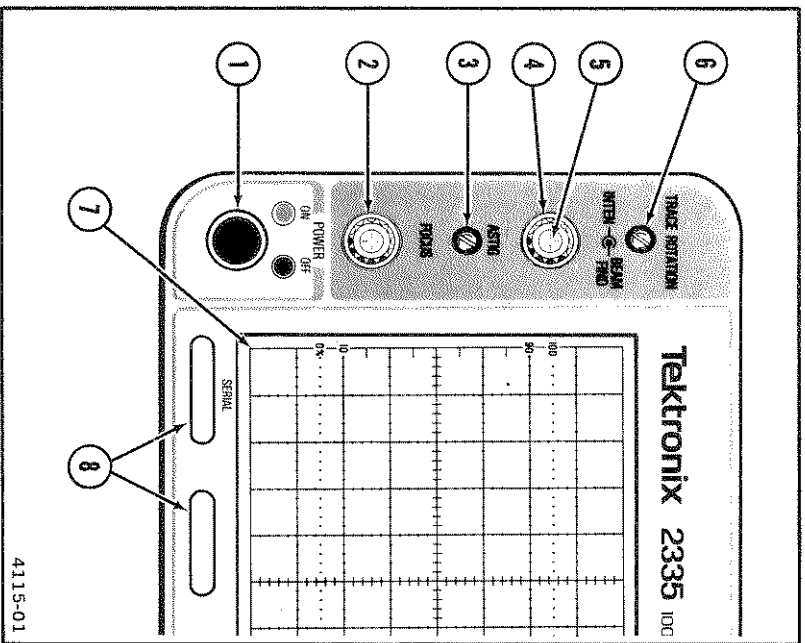

Figure 3. Power and display controls and indicators.
Refer to Figure 3 for location of items 1 through 8.